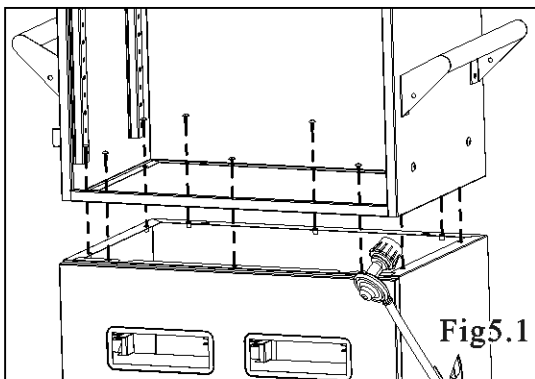

Fig5.1
Procedure: Attach the smoker cabinet and lower cabinet with (10)#10-24 x 1/2 bolts. Fig5.1.